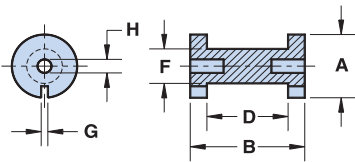

Figure 1
- For higher frequency designs, use a small bobbin (Figure 1) in 43 material.